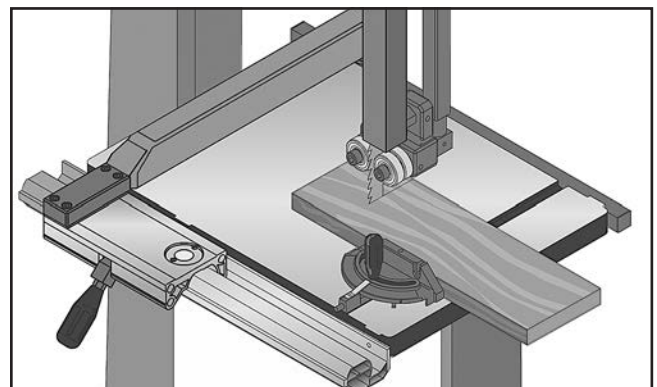

Figure 80. Example of a crosscutting operation with the miter gauge.
5. After all safety precautions have been met, turn bandsaw **ON** and wait for it to come to full speed. Slowly feed workpiece into blade until blade is all the way through workpiece. **Figure 80** shows an example of a crosscutting operation.